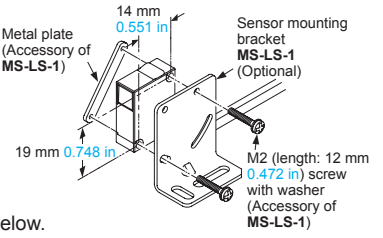

Fig. 1 Proper positioning
- When placing the sensor horizontally or vertically, the reflector must also be positioned horizontally or vertically as shown in Fig. 1 below. If the sensor is placed horizontally or vertically but the mirror is tilted as shown in Fig. 2 below, the reflection amount will decrease, which may cause unstable detection.